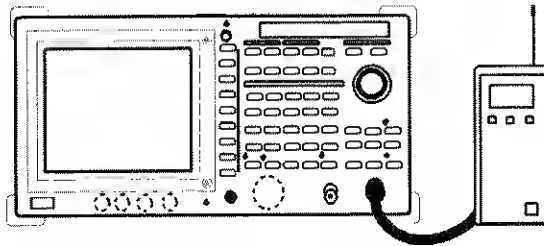

Figure 2-111 Setup for Measuring a Burst wave signal
1. Connect the unit as shown in Figure 2-111.